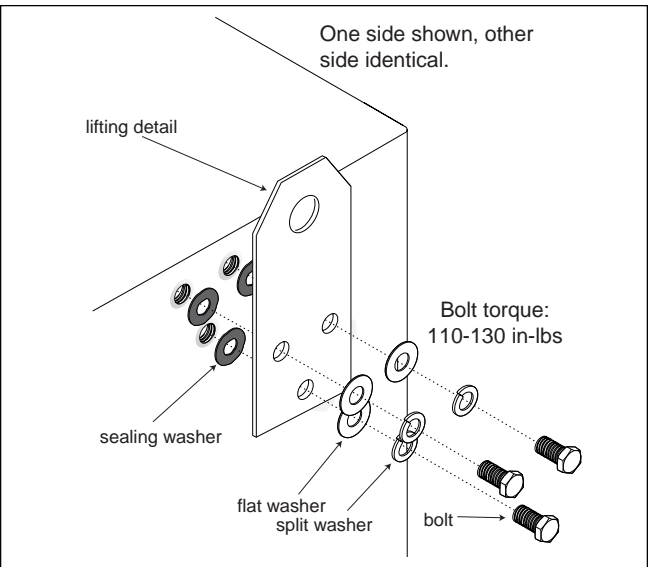

Figure 5. Lifting Detail Assembly
5. Following the illustration in **Figure 5**, attach the lifting details to each side of the cabinet using the bolt and washer groups. Ensure the sealing washers are placed between the cabinet and the lifting details. Tighten bolts to 110-130 in-lbs.